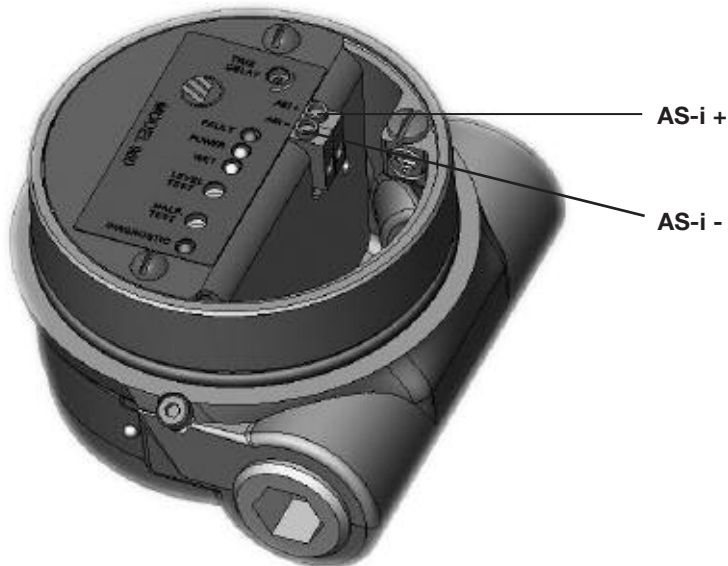

Figure 6
4. Refer to Figure 6. Connect wires to terminals (+) and (-) on the terminal block.